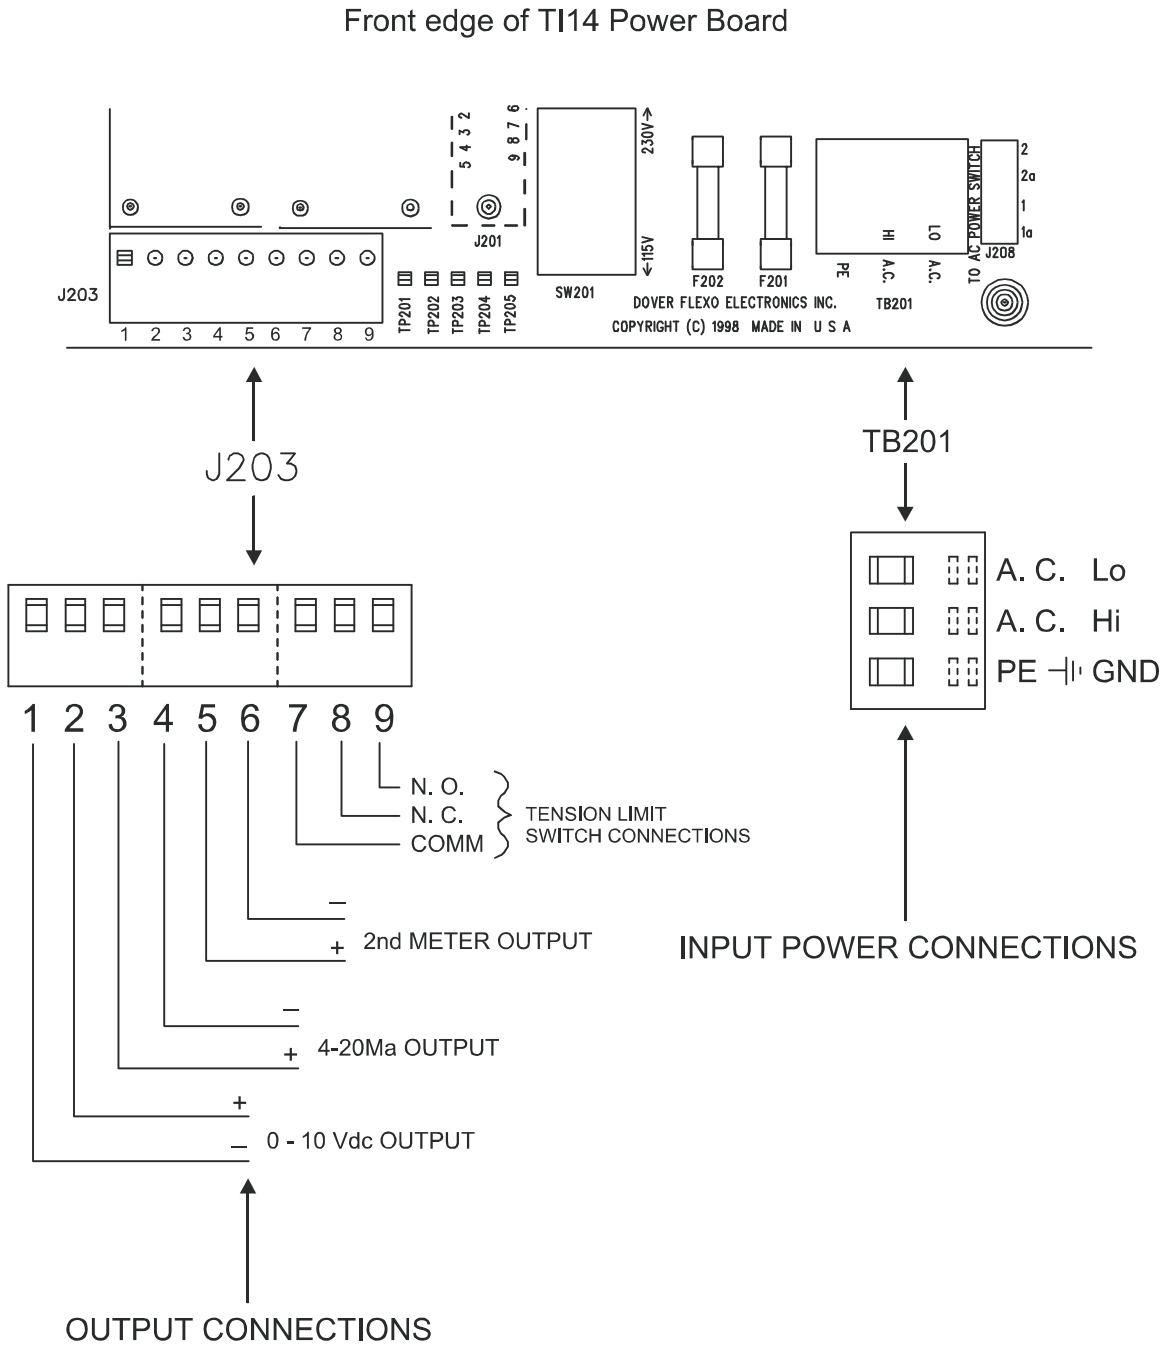

Figure 7 - TI14 ELECTRICAL CONNECTIONS
- Make the connections of power cord wires to terminal block TB201 shown in Fig. 7 on the following page.
3.11 CONNECTIONS FOR TENSION LIMIT SWITCH FUNCTION (See Figure 7, page 7)